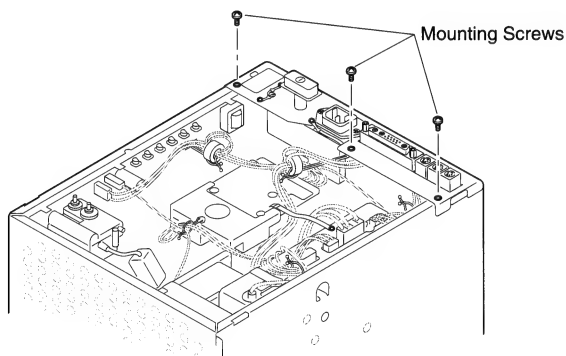

Figure 6 Replacing Mounting Screws
- ▲ **Caution** **FIGURE 6. With the rear panel of the EMI shield removed, the signal input board assembly is loose and could short to chassis ground. To prevent damaging the monitor, reinstall the three mounting screws in the metal brackets and chassis.**
FIGURE 6. With the rear panel of the EMI shield removed, the signal input board assembly is loose and could short to chassis ground. To prevent damaging the monitor, reinstall the three mounting screws in the metal brackets and chassis.